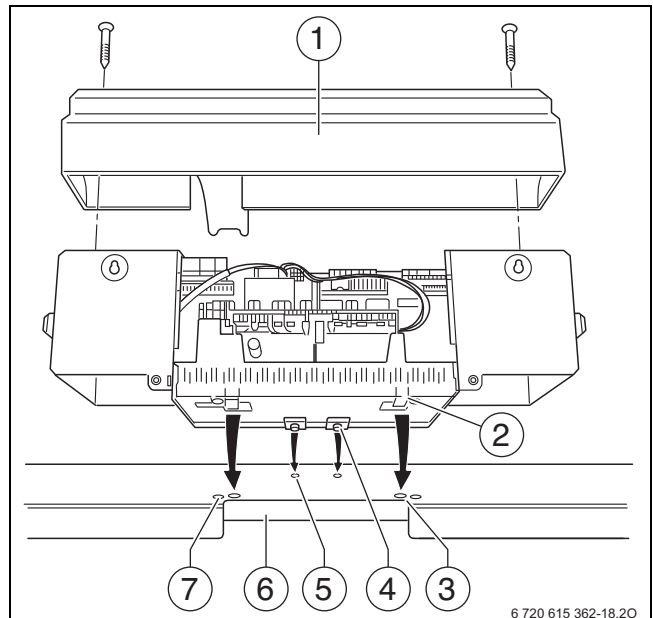

Fig. 24 Control unit
Fig. 24 shows the control unit and the front cover [1] from the back.
Key to Fig. 24:
- ▶ Refit the cover (→ fig. 24, page 24) to the control unit.
- ▶ Fix the control unit cover with the screws supplied (fig. 24, page 24).